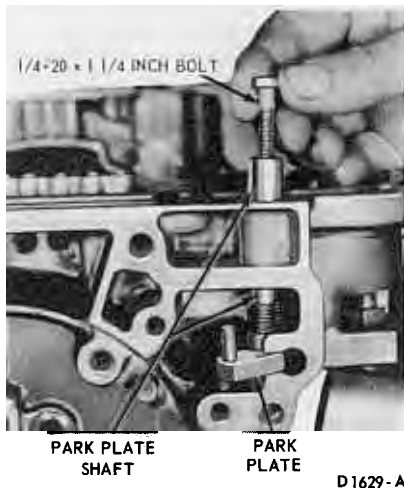

FIG. 35—Removing Park Plate Shaft
5. Thread a 1/4-20 inch screw (Fig. 35) into the park plate shaft. Pull the shaft from the case with the screw.